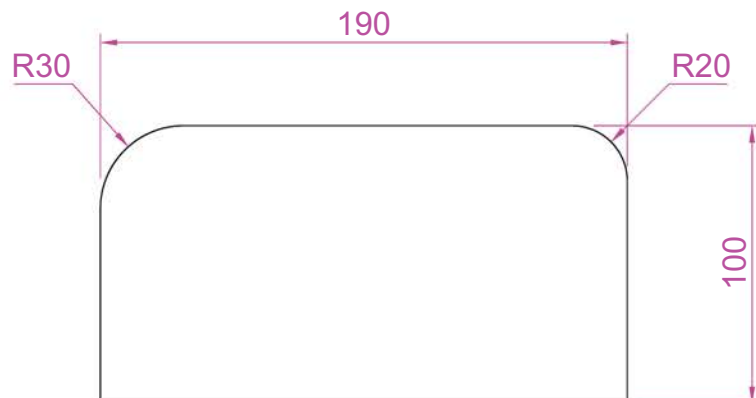

Fig. 12.12 Third example – Radius dimension
THIRD EXAMPLE – RADIUS DIMENSION (FIG. 12.12)
1. Construct the outline Fig. 12.12 using the **Line** and **Fillet** tools.
4. Continue dimensioning the outline as shown in Fig. 12.12.